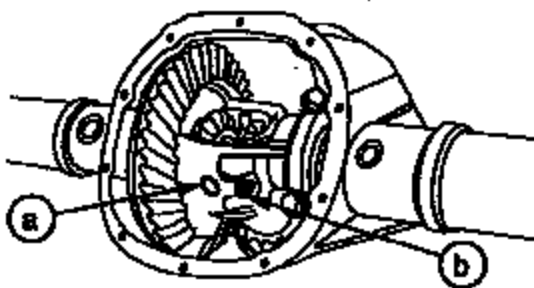

FIGURE 10
11. Reinstall the differential pinion shaft (refer to Figure 10).